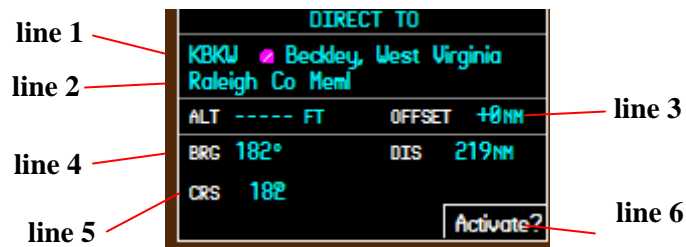

Figure 6.4
The DTO page window on the PFD displays the same DTO information as displayed on the MFD, except the inset map (Figure 6.4). Likewise, the DTO destination waypoint can be entered in 4 ways, and the user is prompted before activation. Activation of a DTO navigation plan supersedes all previous flight plans.
1. click on the DTO button to display the DTO page window (Figure 6.4).